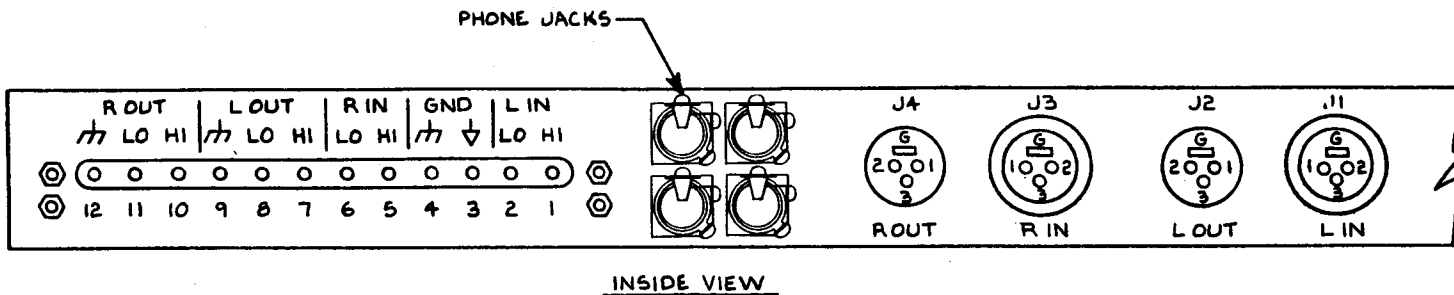

Fig. 1: Wiring Diagram, Retrofit Kit RET-040
See Fig. 1. One of the male connectors has longer leads — install it in the L OUT position.
- 4) **Tack solder the wires from the connectors to the solder lugs on the back of the terminals indicated in Fig. 1.**
Be careful not to confuse right with left or input with output. Check all connections against the chart in Fig. 1 when you're done.